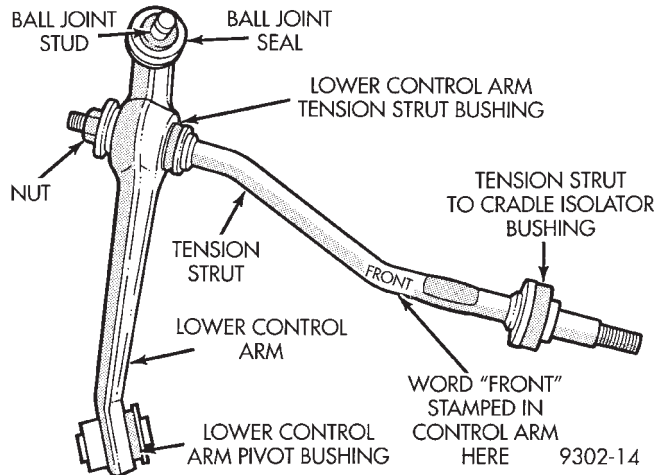

Fig. 43 Lower Control Arm And Tension Strut
(8) Inspect lower control arm and tension strut (Fig. 43) for distortion. Check all bushings for signs of severe deterioration. Replace any bushings that show signs of severe deterioration.